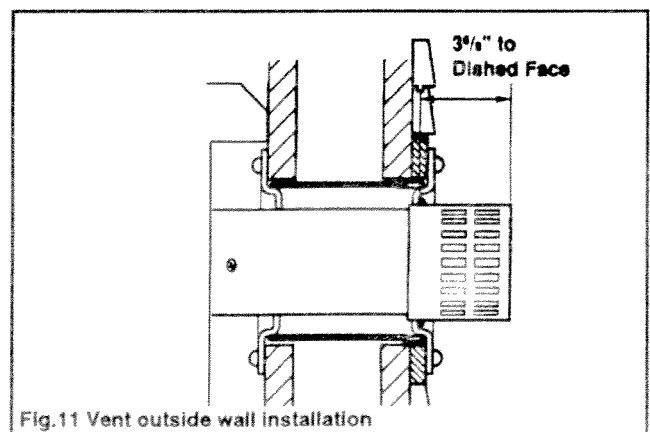

Fig.11 Vent outside wall installation
- 8.1 Route the gas supply line to the appliance inlet connection point (see figure 11).
- 10.7 Place the remaining wall plate over the outside wall end of the terminal with the dished projection facing inside. Push the plate up to the wall so that the dished projection locates inside the vent shield tube (see figure 11). Remove any temporary wedges. If possible while still maintaining a sound connection to the appliance, slope the terminal very slightly down towards the outside so that any rain will run away from the appliance. **The terminal should never slope down into the room. This could cause water to accumulate in the appliance.** Mark the wall plate fixing holes on the wall. Remove the plate.
- 10.9 Replace the wall plate locating it firmly inside the shield tube. Make sure that the slots in the terminal end cap are outside the wall plate (see figure 11).
- 10.10 Line up the screw holes and start the mounting screws. Apply a clear silicone rubber sealant under the edges of the wall plate and tighten the screws. Apply a bead of silicone sealant around the vent tube where it exits the wall plate. (see figure 11).